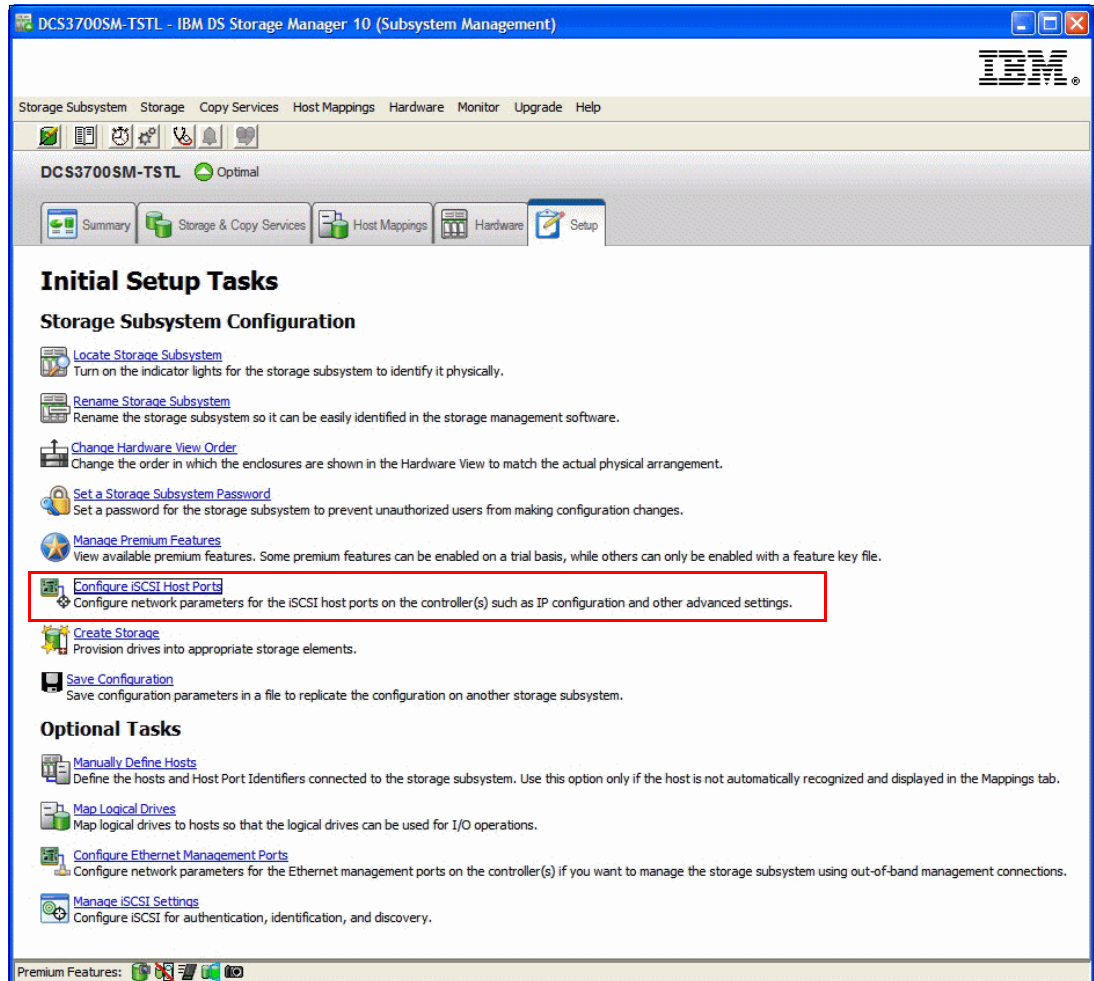
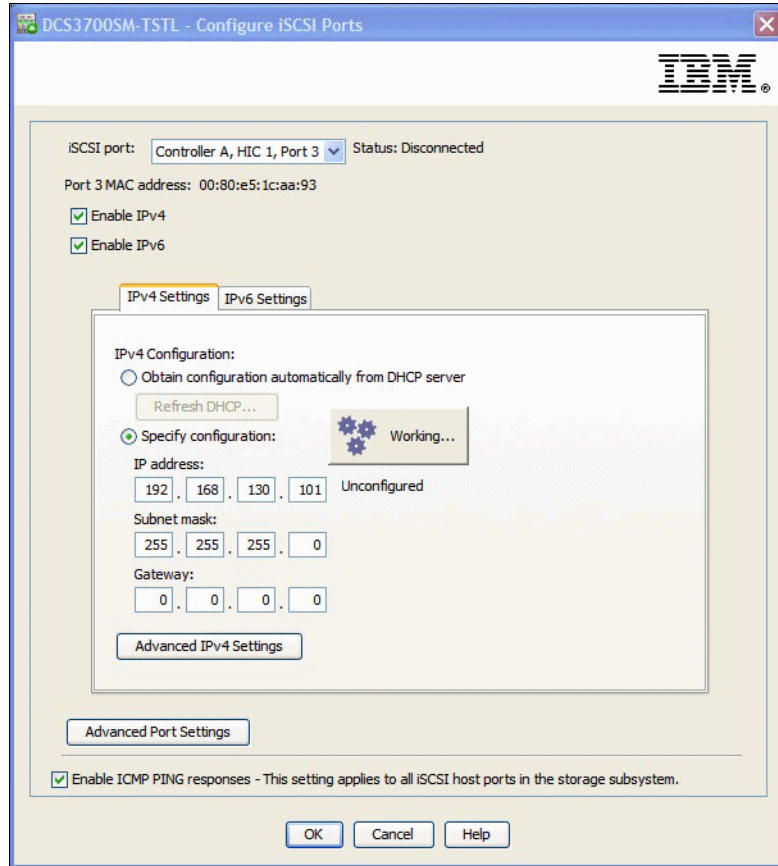

Figure 12-10 Configure iSCSI Host Ports
Figure 12-11 Configure iSCSI host ports
The Configure iSCSI Host Ports task (see Figure 12-11 on page 374) is activated by clicking **Storage Subsystem** → **Setup** → **Configure iSCSI Host Ports** (see Figure 12-10 on page 373). It is used to configure the network settings of the four iSCSI host ports on each controller. IPv4 or IPv6 addresses can be used along with native VLANs. Careful network planning must be done before the setup can be performed.
1. Click **Storage Subsystem** → **Setup** → **Configure iSCSI Host Ports**. A window opens, as shown in Figure 12-11. Our example window shows an active IPv4 configuration with the default IP address for the iSCSI port.
- In bottom part of the Configure iSCSI Host Ports window (Figure 12-11 on page 374), you can disable ping (ICMP echo) requests for all iSCSI host ports. A reset of all ports is required to apply this setting.